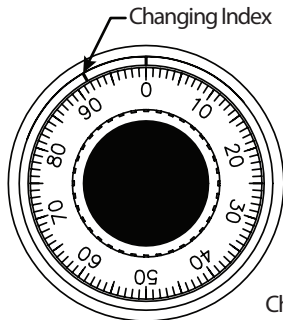

Figure 2.
1. Dial the existing combination using the line at the 11 O'clock position when dialing your combination. This line is known as the changing index. (Figure 2.)